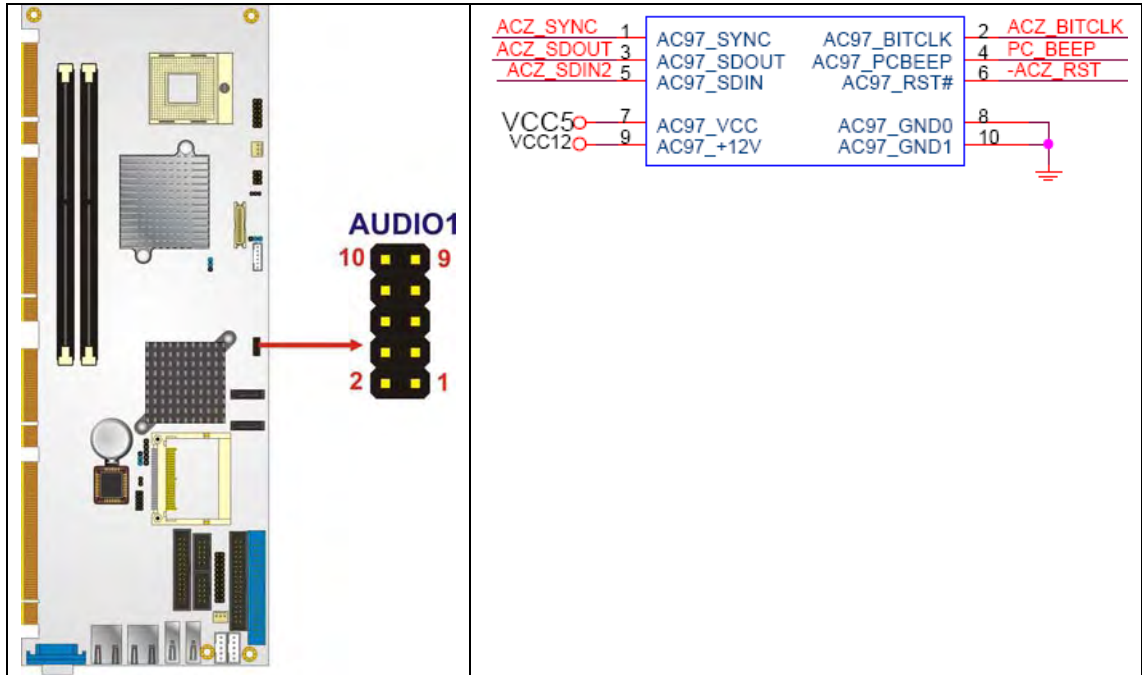

Figure 4-2: Audio Connector Pinouts (10-pin)
- CN Location:** See Figure 4-2